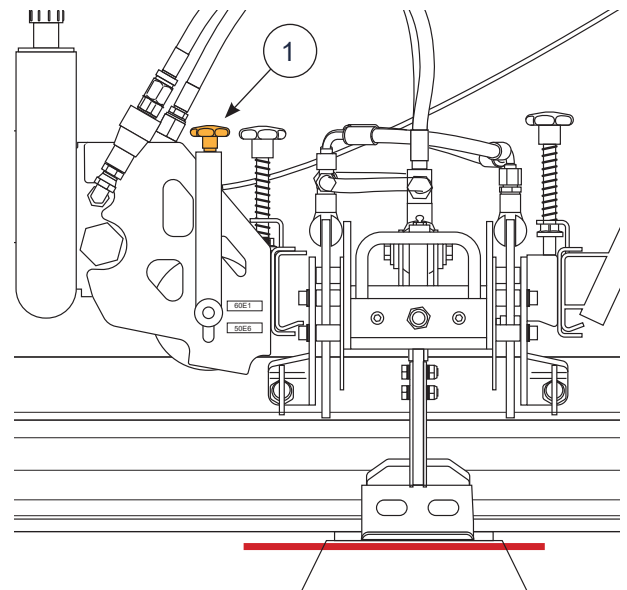
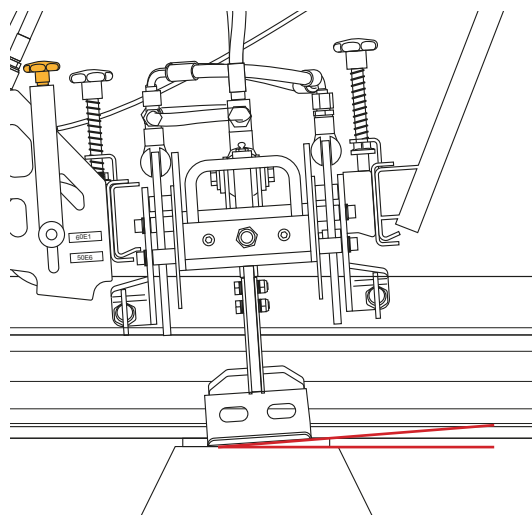
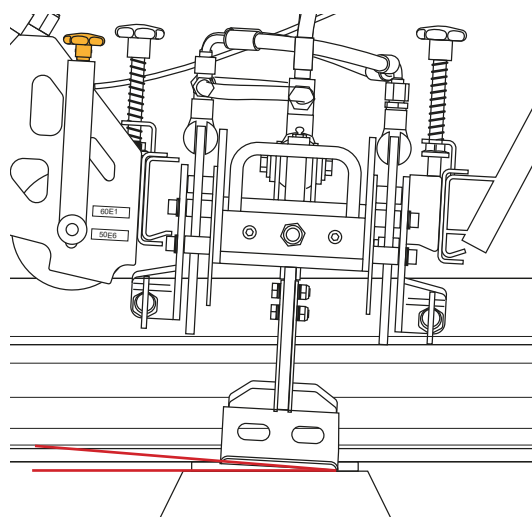

Fig 33. Correct adjustment
Fig 34. Too low
Fig 35. Too high
Turn the knob (1), Fig 33 to adjust to correct height. When correctly adjusted, the work head is in horizontal position according to Fig 33
If the workhead is too low (Fig 34), turn the adjustment knob (1) Fig 33 clockwise, to lift it to horizontal position according to "Fig 33. Correct adjustment".
If the workhead is too high (Fig 35), turn the adjustment knob (1) Fig 33 anti-clockwise, to lower it to horizontal position according to "Fig 33. Correct adjustment".